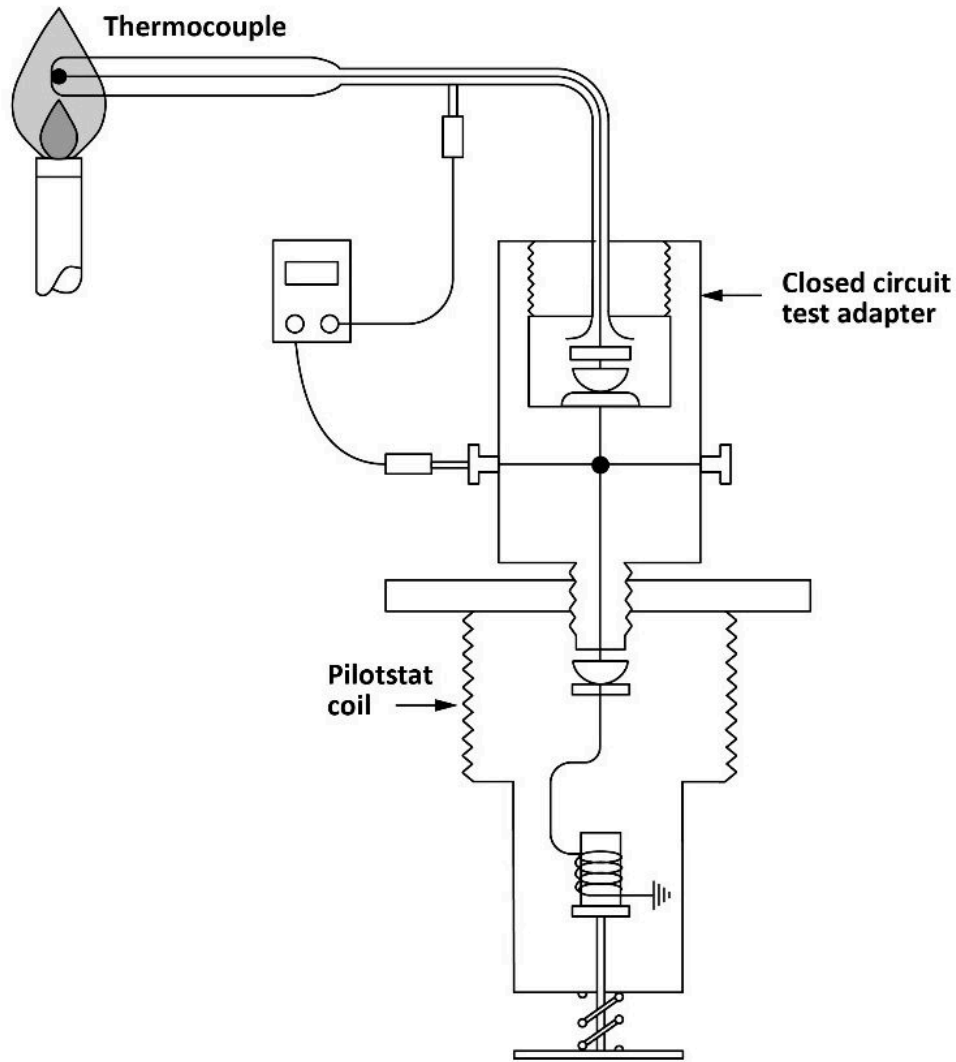

Figure 6 Closed thermocouple circuit test
This will test the performance of the thermocouple under load conditions. At the end with the same connections setup, the pilotstat coil can be tested to determine its condition (Figure 6).
These conditions can be checked using the same meter connection setup as the closed-circuit test (Figure 6):
- Figure 6 “Closed thermocouple circuit test” by Camosun College is licensed under a CC BY 4.0 licence.